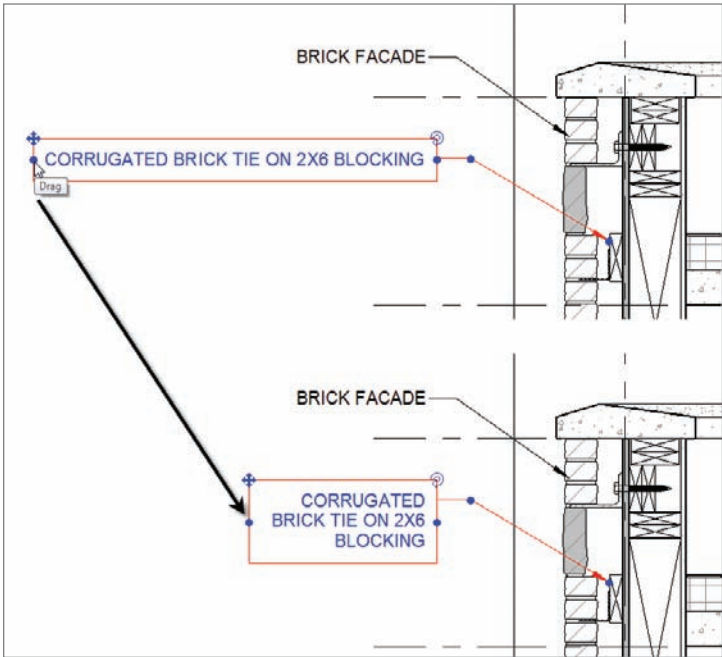

FIGURE 12.58 Wrapping the text
12. Pick the grip to the left, and drag the box to resemble Figure 12.58. Your text will wrap.